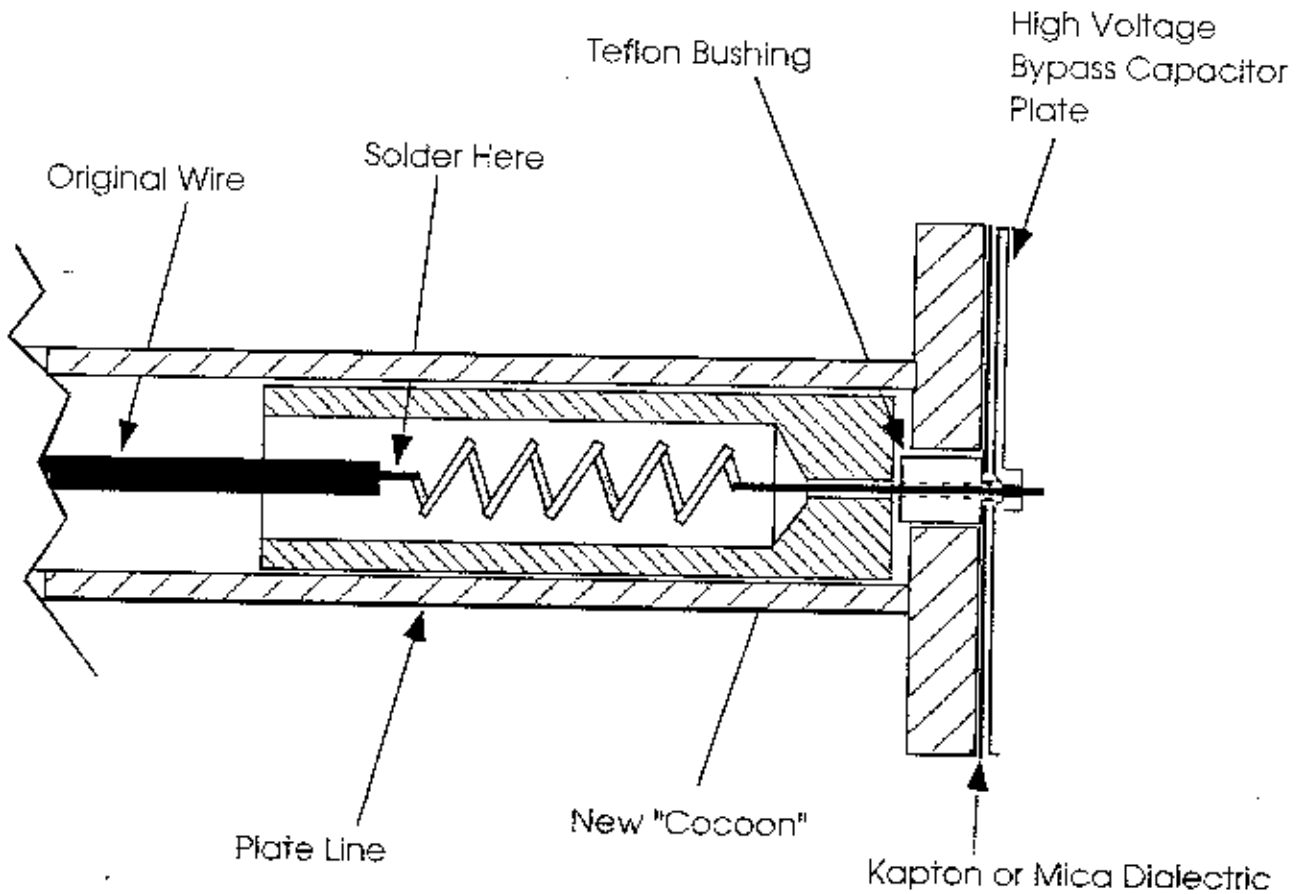

Figure 4. Plate Choke Insulator Installation
16. Slip the Teflon 'cocoon' over the choke all the way so the bare wire from the long lead of the choke sticks out through the end of the 'cocoon'. Insert the whole assembly, cocoon first, back into the plate line (see Figure 4.). Push it all the way in until you get to the point where the capacitor threads are ready to be screwed back into the front end of the plate cavity. Reverse the removal procedure and screw the plate line on to the capacitor. Once close to being tight, check to see that the two screw holes in the end of the plate line are parallel to bottom of the compartment (sight along the edge of the compartment). This takes some 'messing' around until you get the capacitor tight at the same time the screw holes are in the right position. The final tightening is accomplished with a wrench on the capacitor. Undershooting the final position of the screw holes and then turning the capacitor in the last little bit with the wrench sometimes works.